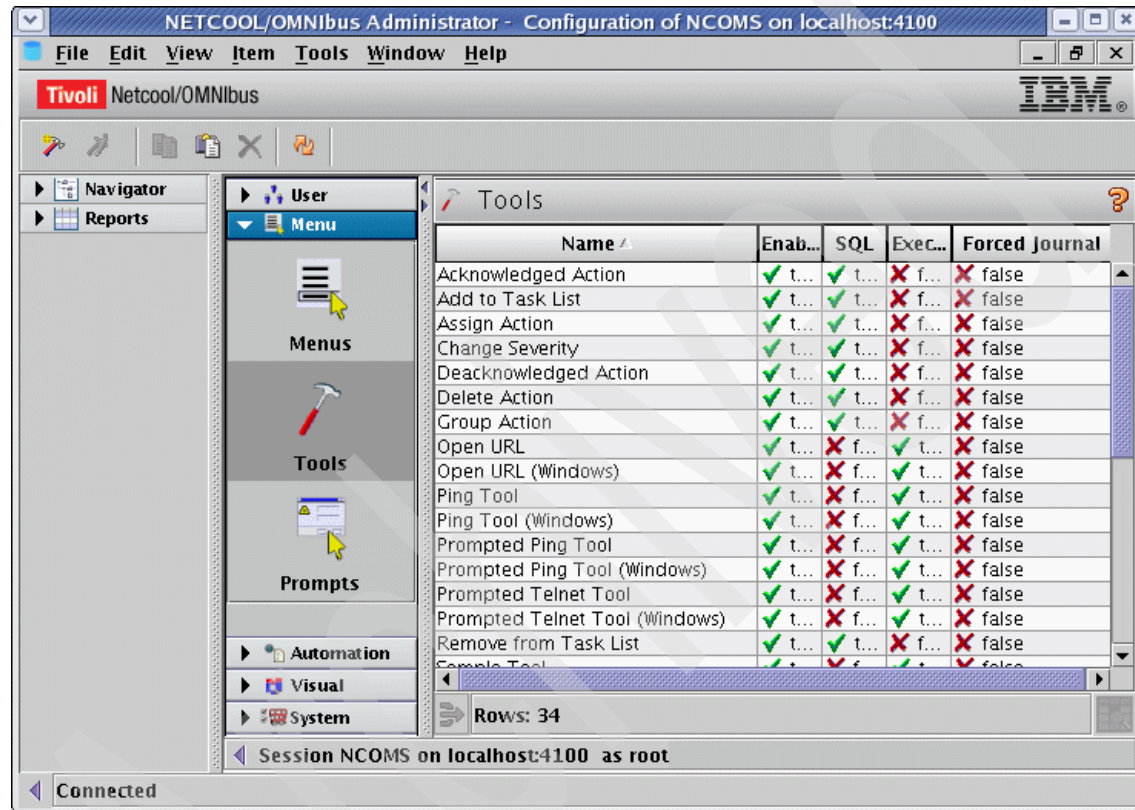

Figure 4-38 Administrator console Menu tab
1. Within the Tools menu in Figure 4-38, click the Add Tool  icon.